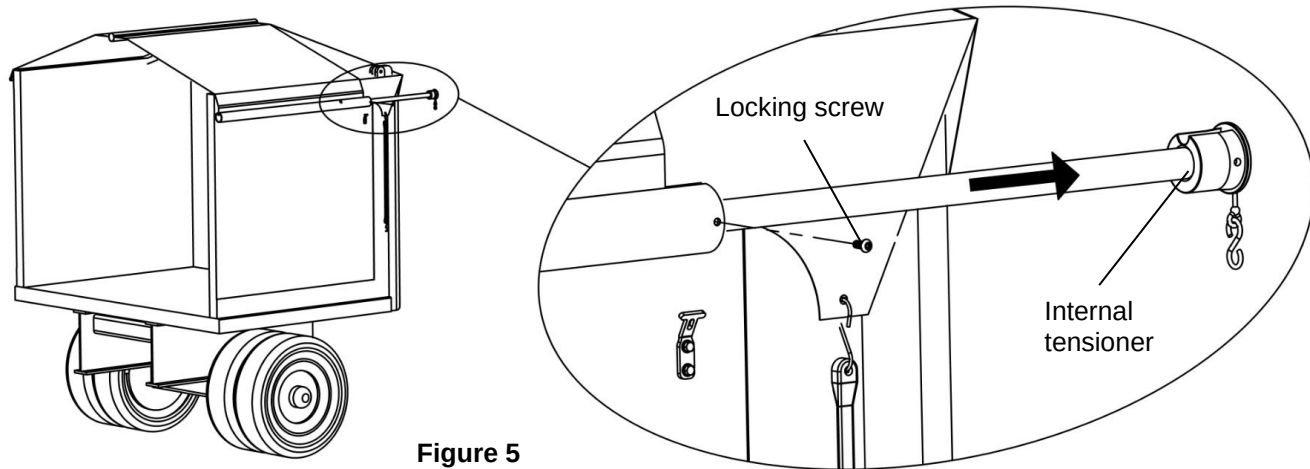

Figure 5
3. **Figure 5.** Unscrew the locking screw and remove the internal tensioner from the roll pipe